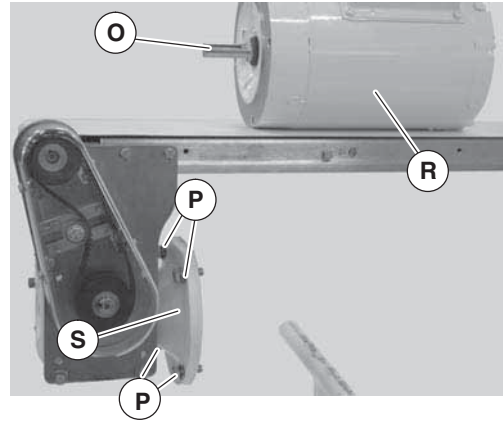

Figure 47
4. Remove screws and lock washers (Figure 47, item P). Remove motor (R) from gear reducer (S). Retain motor output shaft key (O).